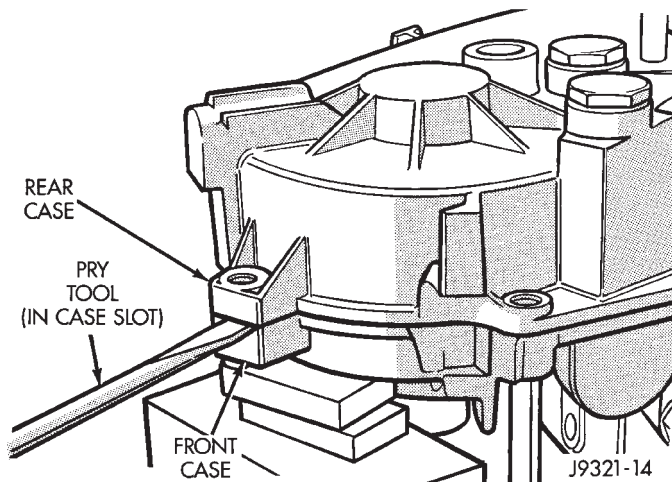

Fig. 19 Loosening Rear Case
(3) Loosen rear case with flat blade screwdriver to break sealer bead. Insert pry tool blade only into notches provided at each end of case (Fig. 19).
(4) Remove rear case from front case.